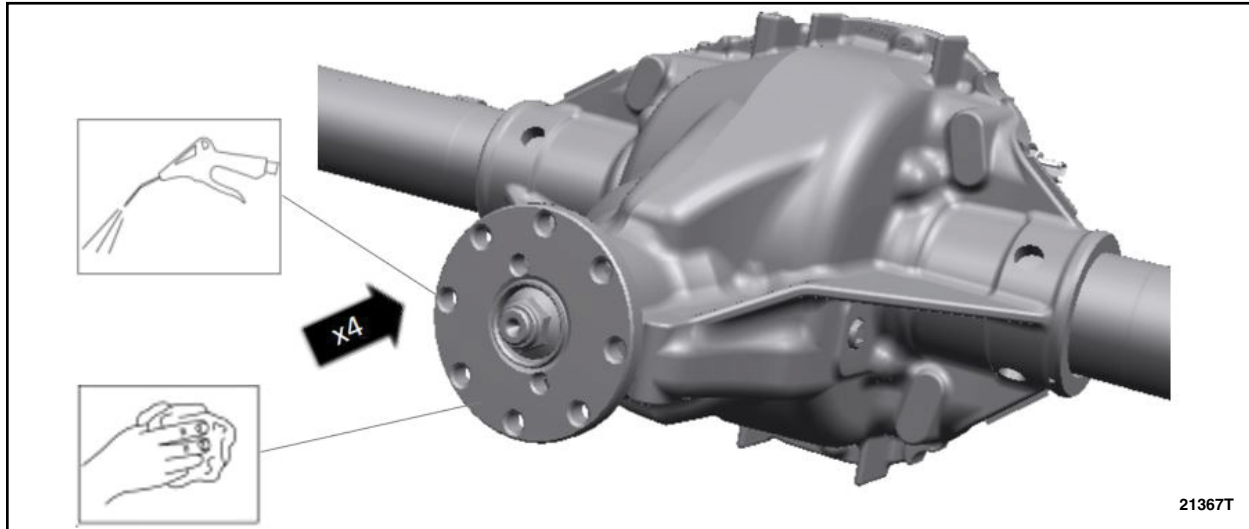

FIGURE 9
18. Using an air blow gun, remove any debris from threaded holes in axle flange. See Figure 9.